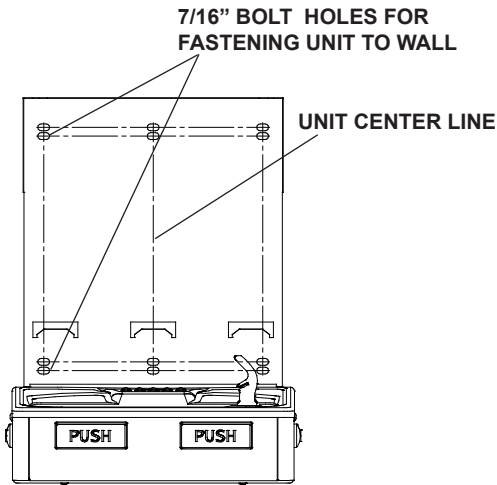

Fig. 8
- 2) Remove wall mounting plate from Bottle Filler. Place wall plate against wall on top of basin. Center the wall plate side to side with the basin. Mark the six (6) mounting holes with a pencil (See Fig. 8).
- 4) Install wall mounting plate to wall using six (6) 7/16" obround mounting holes (mounting bolts not included) (See Fig. 8). Use appropriate fasteners for your wall type.